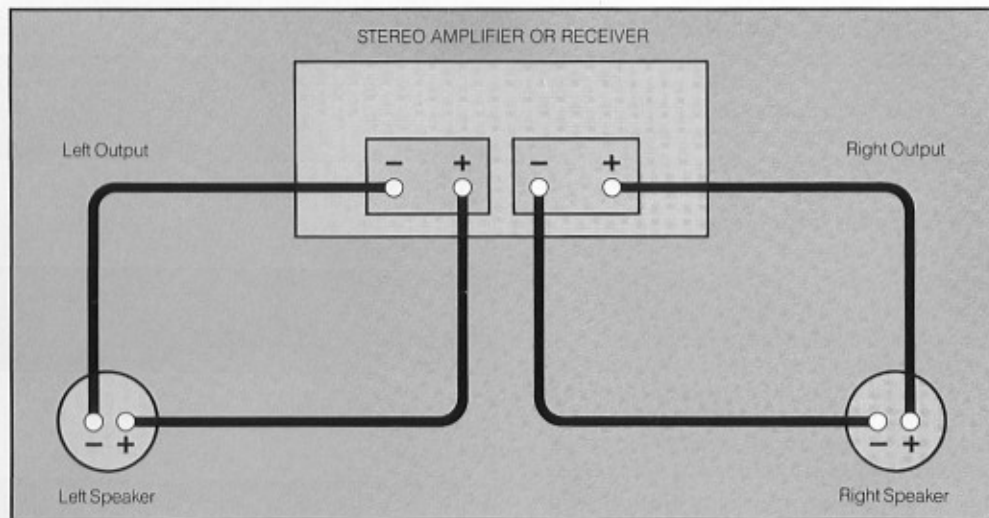

Figure 3. Connecting the speakers to the receiver/amplifier.
E. Next, make sure your receiver or amplifier is switched "off" and unplugged. Connect the other end of the wire to the terminals marked "left" on the rear of the receiver/amp, making sure to connect the positive side of the wire to the receiver/amp positive terminal (marked (+) or colored red) and the negative side of the wire to the negative terminal (marked (-) or colored black). **Refer to Figure 3.** The idea is to make sure that the speaker's positive terminal is connected to the receiver/amp's positive terminal, and the negatives are connected properly as well. Make sure all connections are secure.